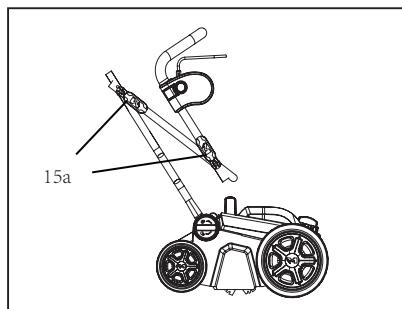

Fig. 20
4. Loosen the wing nuts (15a) of the lower and middle handle and fold the handle bars (Fig. 20).